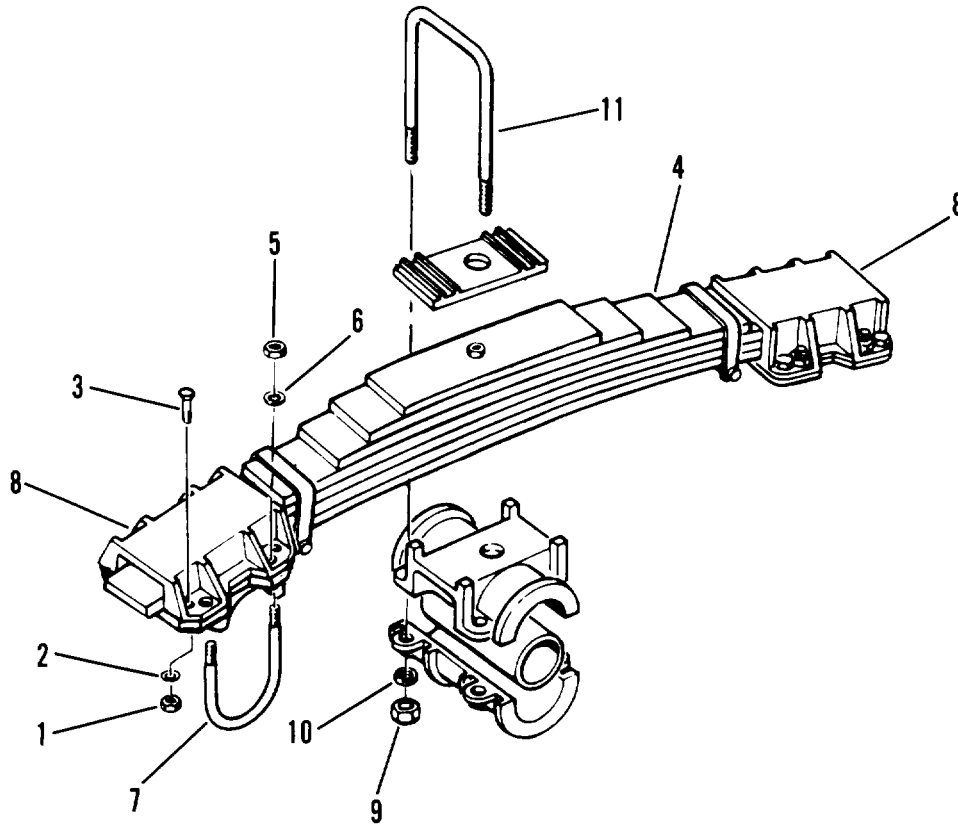

Figure 5-6. Spring assembly
- (1) Support both axles on each side and frame.
- (2) Remove four nuts (1, figure 5-6), washers (2) and bolts (3) from each side of spring assembly (4).
- (3) Remove four nuts (5), washers (6) and two u-bolts (7) from each side of spring (4).
- (4) Remove spring cap (8) from each side of spring (4).
- (5) Remove four nuts (9), washers (10) and two large u-bolts (11) that secure spring (4) to trunnion tube.
- (6) Remove spring (4).
- (1) Position spring (4, figure 5-6).
- (2) Install two large u-bolts (11), four washers (10) and nuts (9) to secure spring (4) to trunnion tube. Torque to 880 lb ft (1192 Nm).